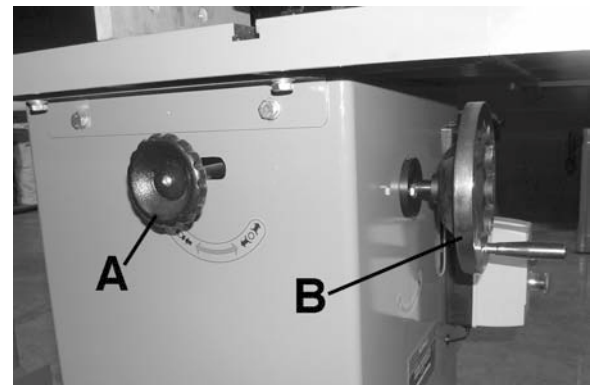

FIGURE 17
- 1) Loosen the spindle height lock knob (A) Fig.17 counterclockwise.
- 3) Adjust the cutter height by turning the front handwheel (B) clockwise to raise the spindle and counterclockwise to lower the spindle.